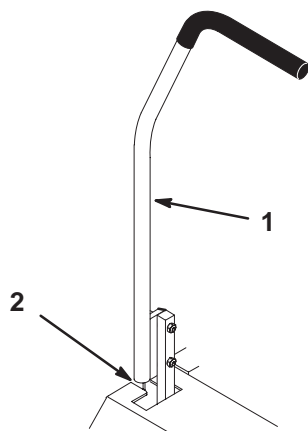

Figure 54
3. Check where lever is relative to notch in console (should be centered allowing lever to pivot outward to the neutral lock position (Fig. 54).